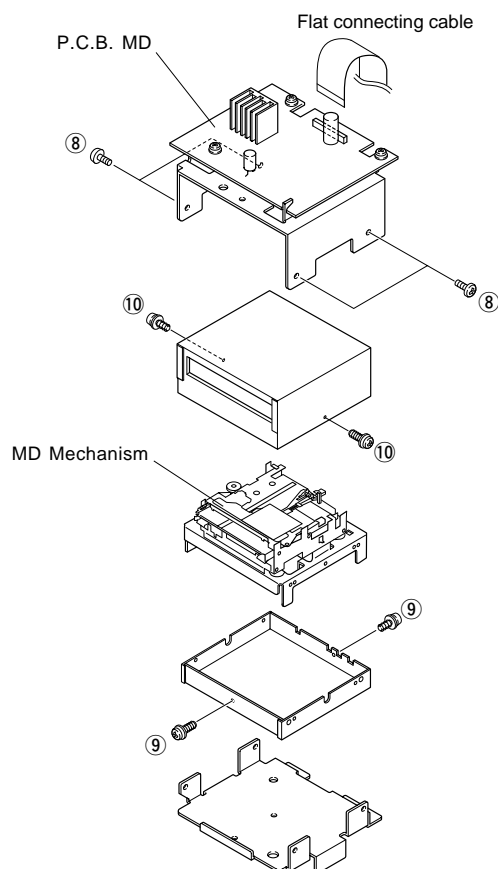

Fig. 4
- Disconnect the flat connecting cable in Fig. 4.
- Remove 4 screws (⑧) in Fig. 4.
- Remove 2 screws (⑨) in Fig. 4.
- Remove 2 screws (⑩) in Fig. 4.